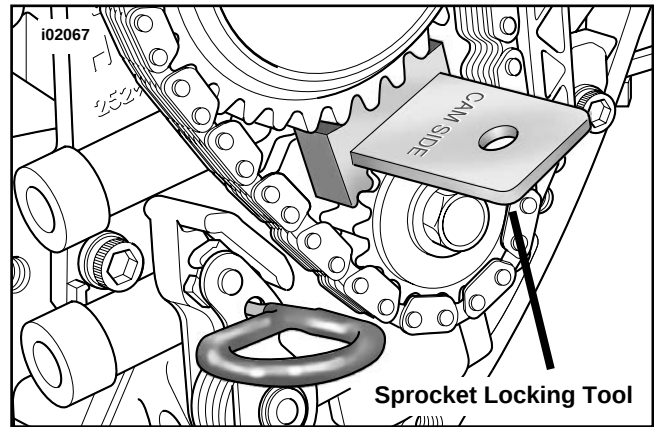

Figure 7. Crankshaft/Camshaft Sprocket Locking Tool (Part number. HD-42314)
- f. See Figure 7. Position CRANKSHAFT/CAMSHAFT SPROCKET LOCKING TOOL (HD-42314) between the crank and primary cam sprockets to prevent rotation. The handle of the tool is stamped "Crank" and "Cam" to ensure proper orientation.